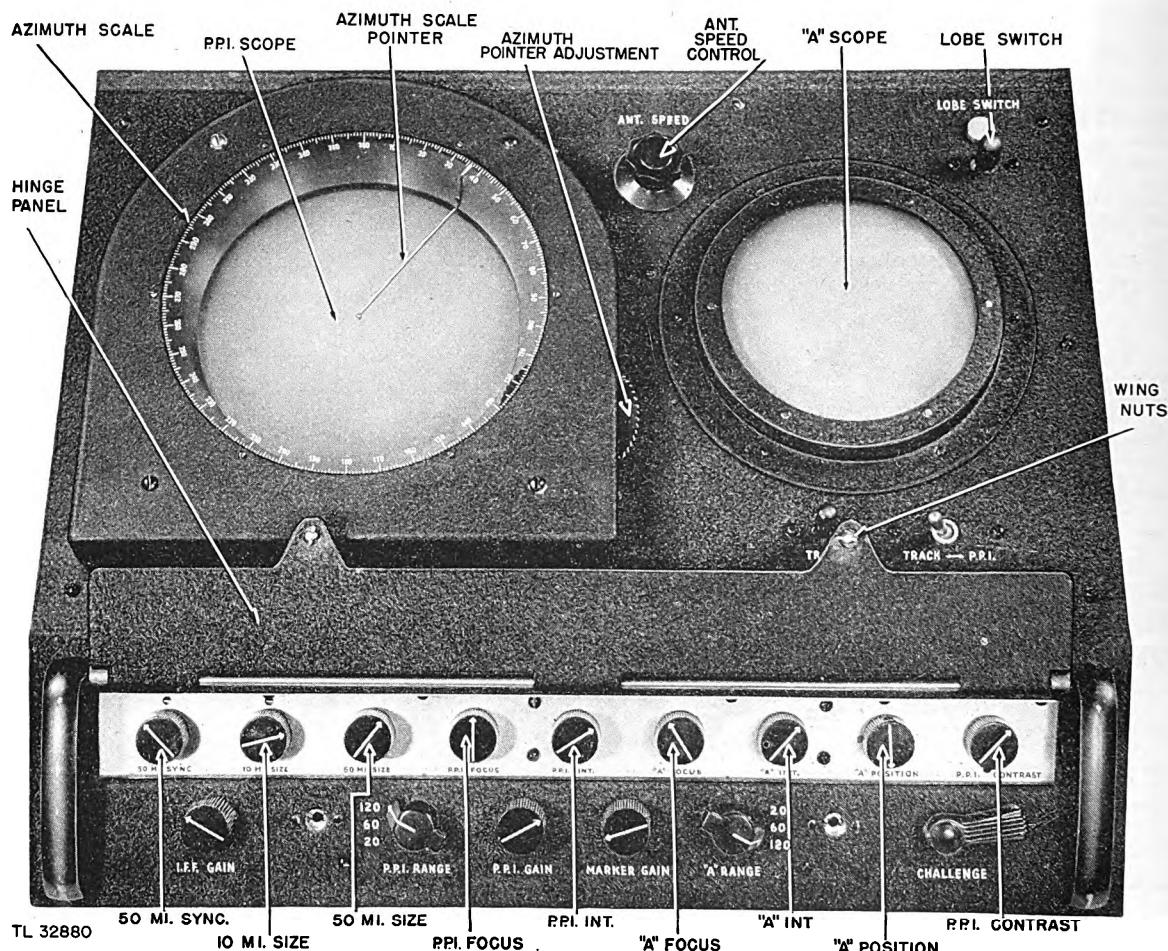

Figure 15. Indicator chassis, panel open.
- (k) The LOBE SWITCH (fig. 15) for:
- (m) The "PPI"-TRACK switch (fig. 15) for: